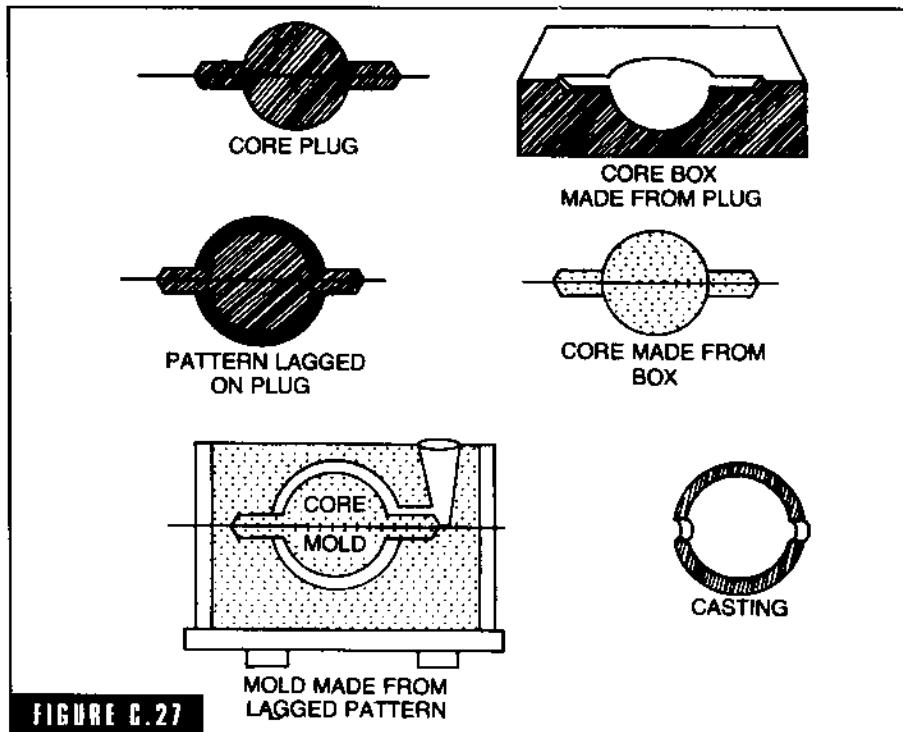

FIGURE C.27
**core plug** A wood or metal form that is an exact reproduction of a desired core and its print (Fig. C-27). The purpose is to see exactly